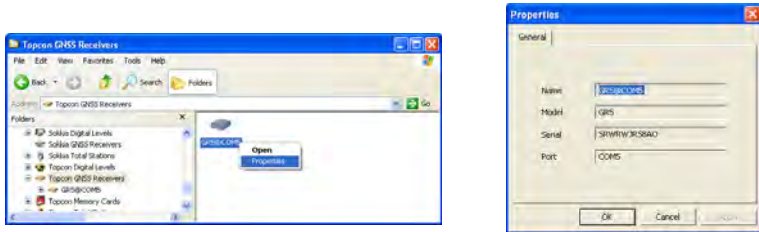

Figure 5-2. Receiver Properties
- To view information about the receiver (Figure 5-2), right-click the receiver, and select the *Properties* option.